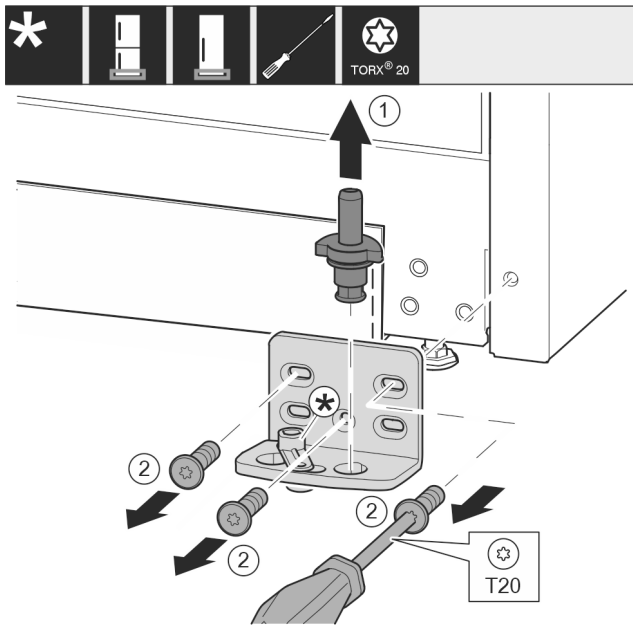

Fig. 10
- ▶ Lift the bearing pin completely upward and remove it. *Fig. 10 (1)*
- ▶ Remove the screws with the T20 screwdriver and take off the bearing bracket. *Fig. 10 (2)*